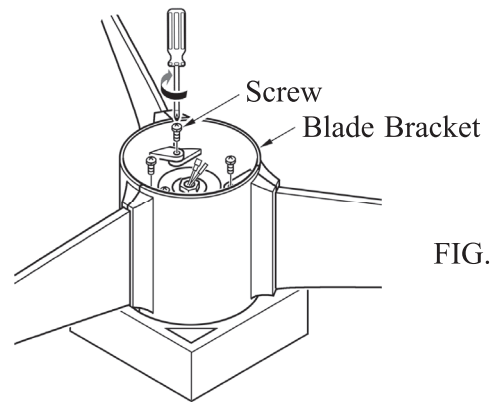

FIG.3
3. Align the overlapped hole tabs on the blade brackets with each other and secure with screws provided. (See fig.3)